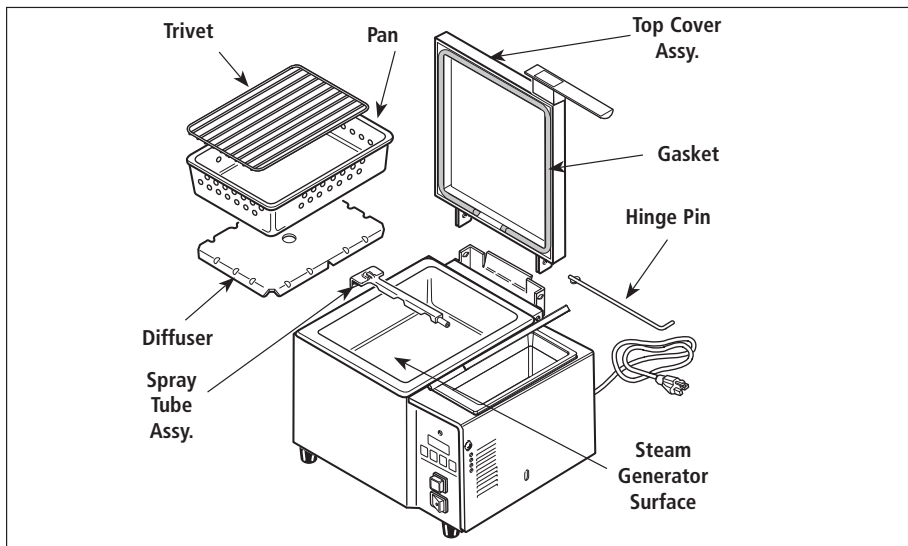

Figure 6. Deluxe Food Warmer Components (DFW-150 Shown)
NOTE: Pressing and holding the OPERATE button for longer than 1 second at a time, and/or too often (before 20 seconds), will flood out the Generator surface (Figure 6) and result in poor steaming.
3. Remove the trivet and pan (Figure 6).
5. Wipe down the top cover, gasket, and the entire exterior of the unit (Figure 6) with a clean, hot, damp cloth (not dripping wet) and wipe dry.
3. Remove the spray tube (Figure 6) by lifting the loose end and pulling it out of the generator hole.
6. Use a scraper or spatula to remove the excessive calcium/mineral buildup from the generator surface (Figure 6).